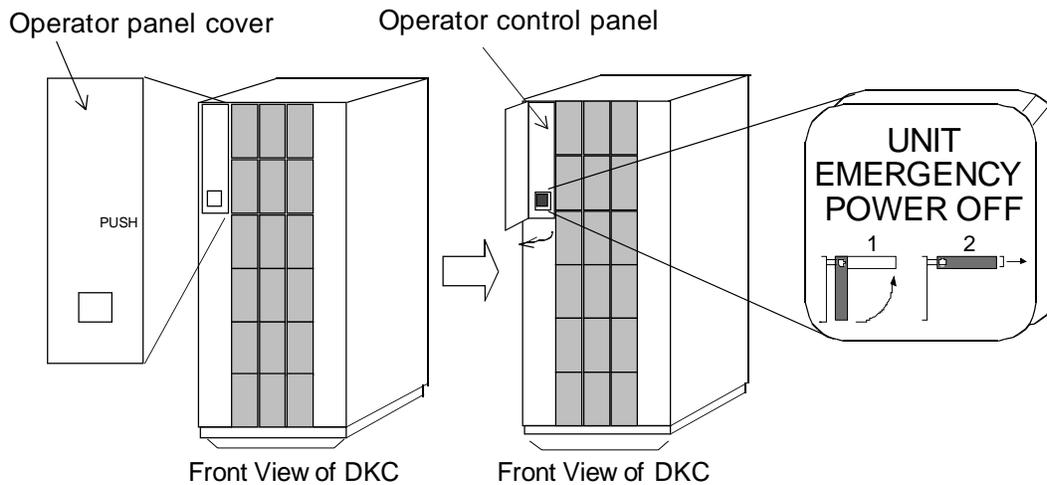

Figure 16 Emergency Power-Off (EPO)
The disk system EMERGENCY POWER OFF (EPO) switch is located on the operator control panel (see Figure 16). Use this switch only in case of an emergency.
2. Pull the emergency power-off switch (see Figure 16) up and then out towards you as illustrated on the switch.